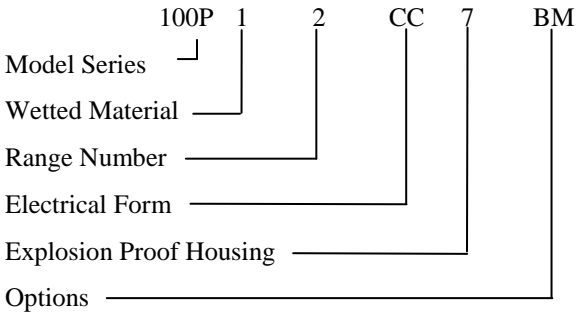

Figure 3. Part Number Breakdown
The part number contains information about which configurations and options are included in your Adjustable Pressure Switch. To determine the pressure range, electrical rating, and options, compare the part number of your unit with the information below in Figure 3.
* See Figure 3 above for part number breakdown